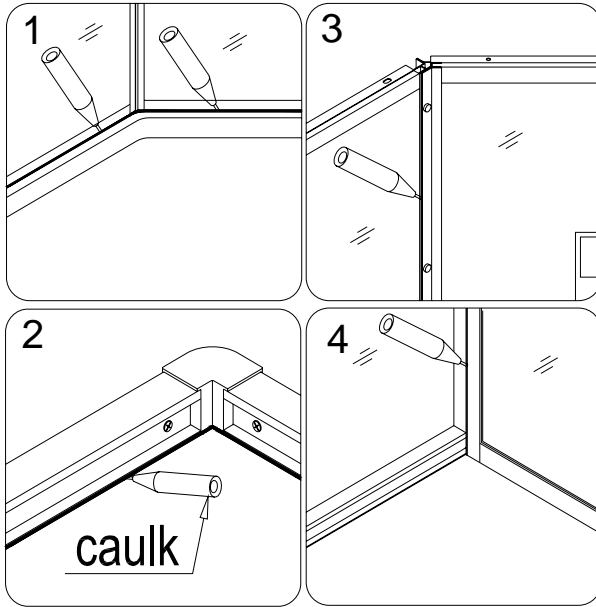

Fig. 20
26. Seal with silicone all the connections between the vertical profiles and the control panel, all walls and the tray. **Let the silicone dry for at least 24 hours before using the cabin.** See fig. 20 for details.